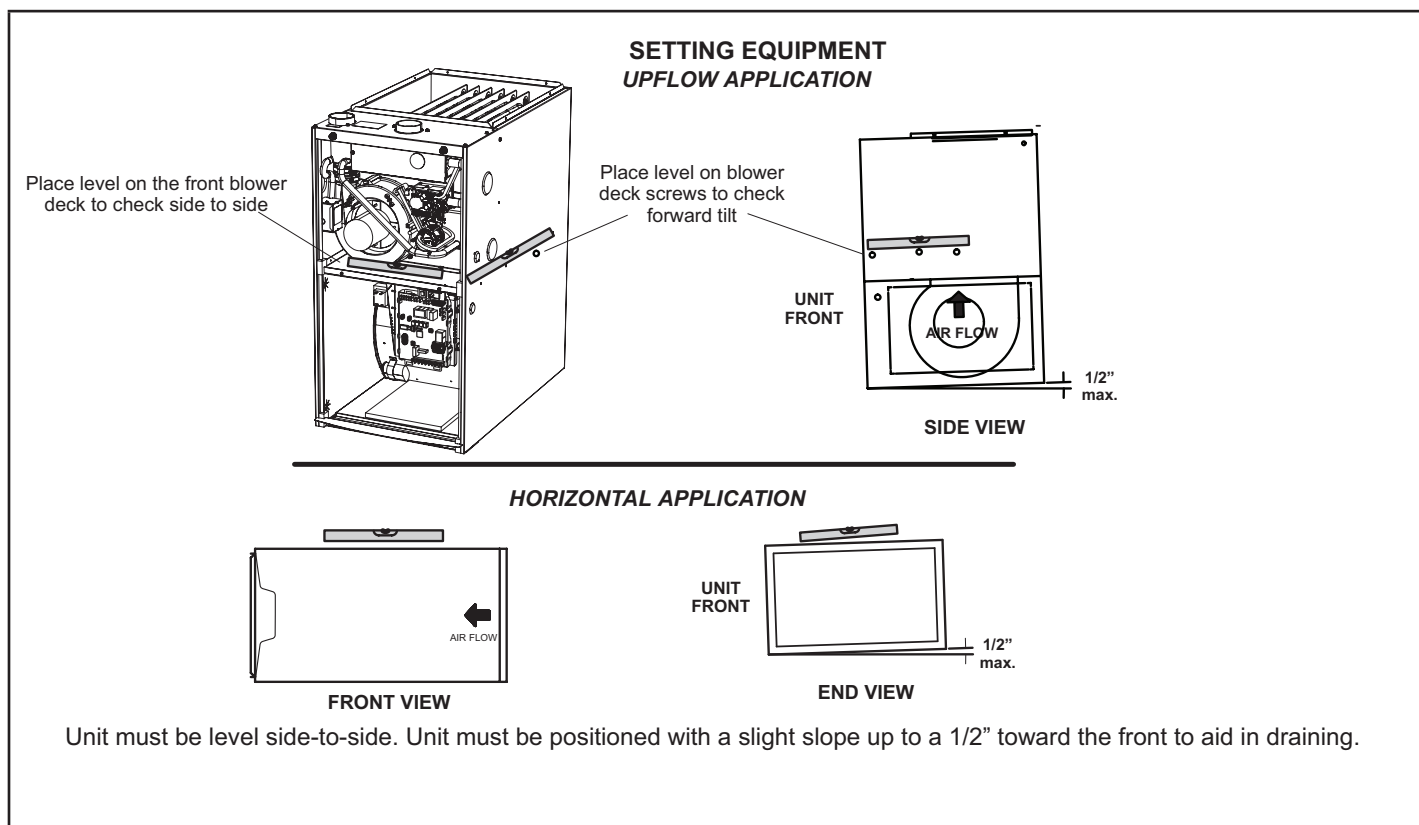

**FIGURE 4**
**Do not install the furnace on its front or back. See FIGURE 4.**